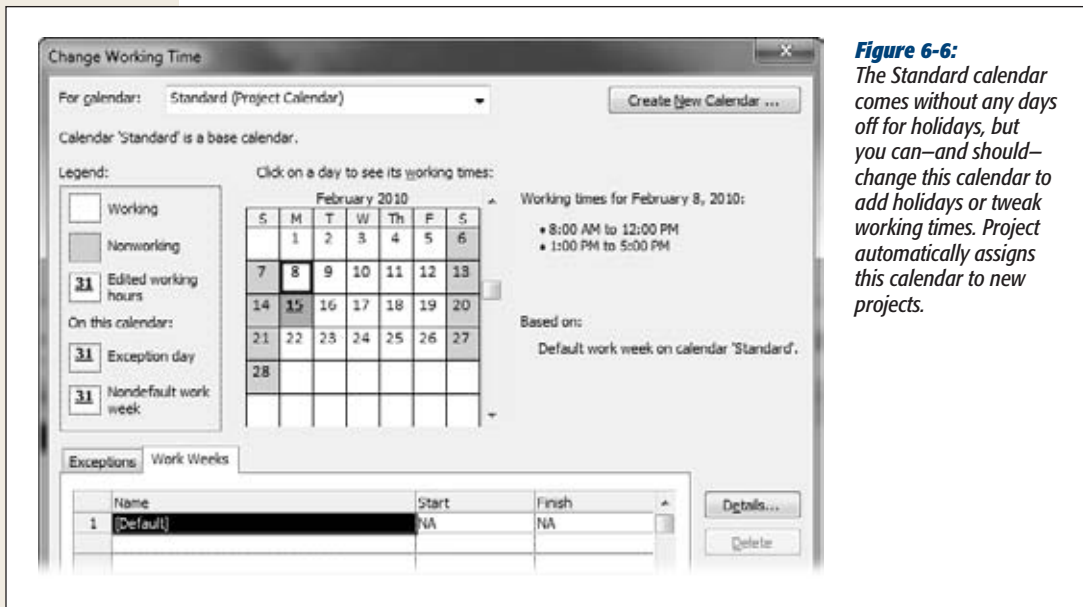

Figure 6-6:
- **Standard.** Sets working time to Monday through Friday from 8 a.m. to 5 p.m. with an hour for lunch from 12 p.m. to 1 p.m., shown in Figure 6-6.